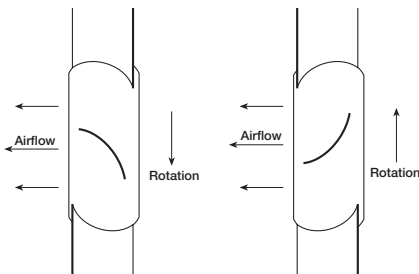
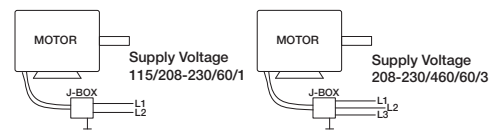

Figure 6 — Rotation Decal
Figure 11 — Typical Wiring Diagram
12. Rotation direction of the propeller should be checked by momentarily turning the unit on. Rotation should be in the same direction as the rotation decal affixed to the unit or as shown in Figure 6. For 3-phase installations, fan rotation can be reversed by interchanging any two of the three electrical leads. For single phase installations follow the wiring diagram located on the motor or see Figure 11.
2. Wire motor for desired voltage per wiring diagram on motor or refer to Figure 11 for connection wiring diagram.
2. Start the ventilator up and shut it off immediately to check rotation of the propeller with directional arrow in the motor compartment. Refer back to Figure 6.